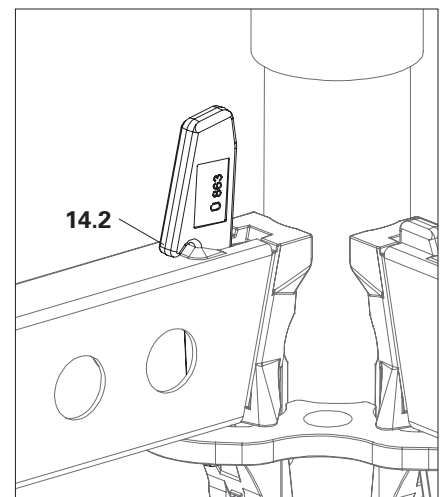

Fig. A3.05a
2. Lift out the wedge and place it on the horizontal ledger with the wedge nose (**14.2**). (Fig. A3.05a)